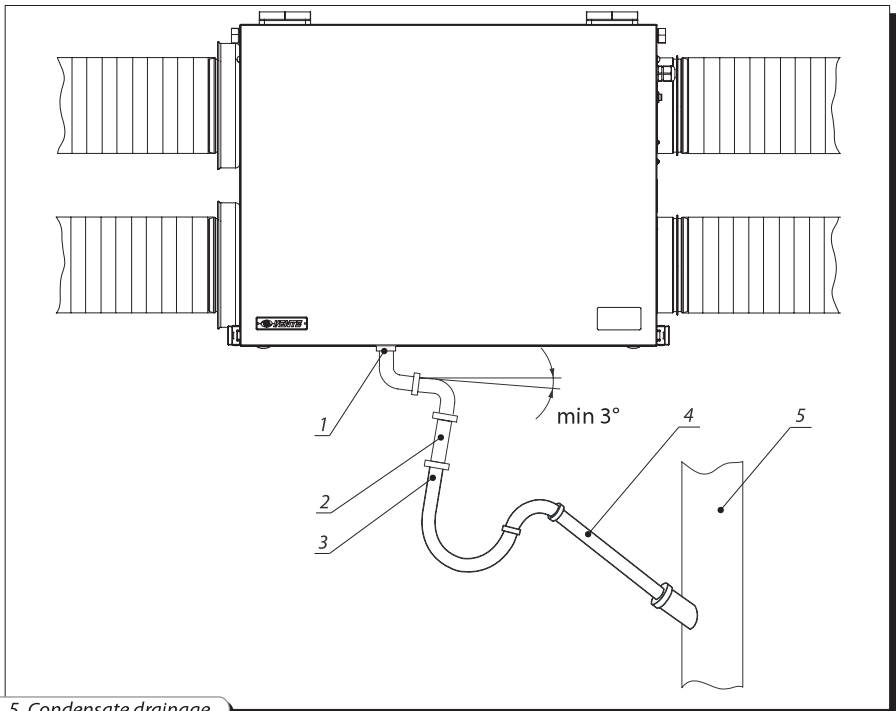

fig. 5. Condensate drainage
The unit is equipped with a condensate drain hose for condensate drainage (fig. 5). Connect the drain hose (1), U-trap (3) and drain system (5) with metal, plastic or rubber pipes (2 and 4). The pipes must be sloped down at least by 3°. Before starting operation of the unit fill the system with water and check that U-trap is always filled with water. Make sure that the water drainage is correct, otherwise some condensate may be accumulated inside the unit and provoke subsequent equipment damage and water ingress to the room. The condensate drainage system is designed for operation at the ambient temperature above 32 °F(0 °C). If the ambient temperature is below 32 °F(0 °C), insulate the drain system and provide air heating.